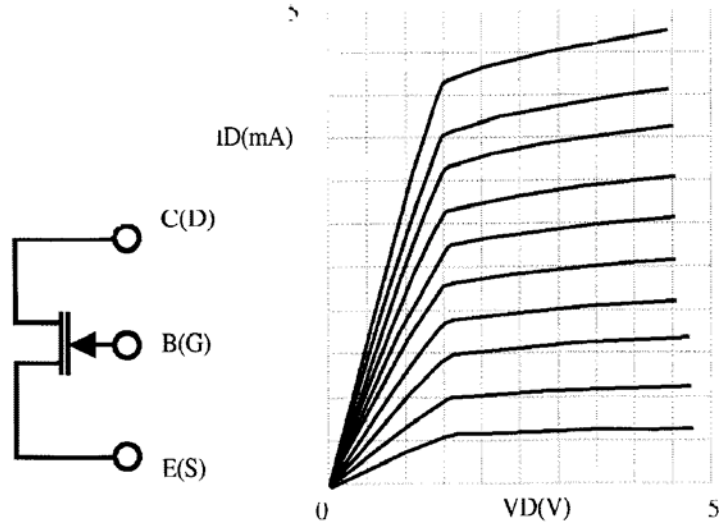

Fig. 3-3
3.2.3 Output characters of N Channel-depletion field effect transistor 3DJ7G (see Fig. 3-3)